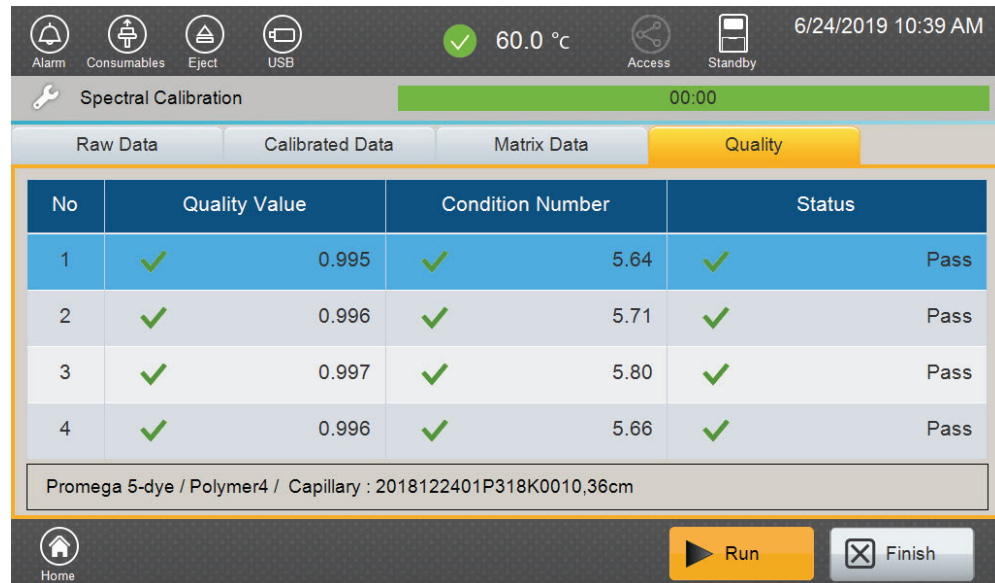

Figure 41. Spectral Calibration 'Quality' tab screen.
4. Review the quality of the spectral calibration by selecting the 'Quality' tab (Figure 41).